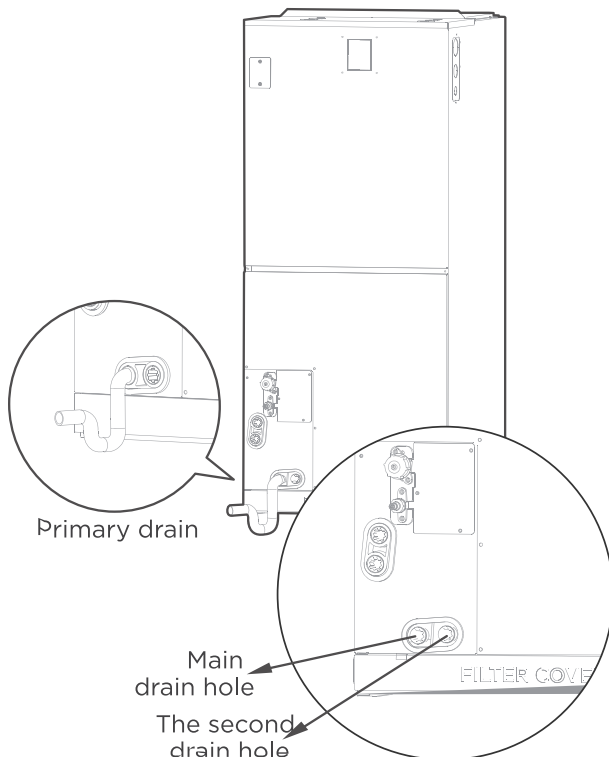

Fig. 24 — Vertical Discharge
- Figure 24 shows how to trap or plug all drains during vertical discharge.